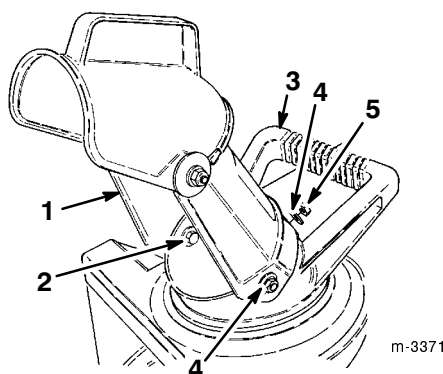

Figure 5
1. Position the holes on the discharge chute over the hex bolts on the sides of the chute handle (Fig. 5).
2. Secure the discharge chute onto the hex bolts with two washers and two locknuts (Fig. 5).
5. Install the locknut and washer **tightly** onto the screw at the rear of the discharge chute (Fig. 5).